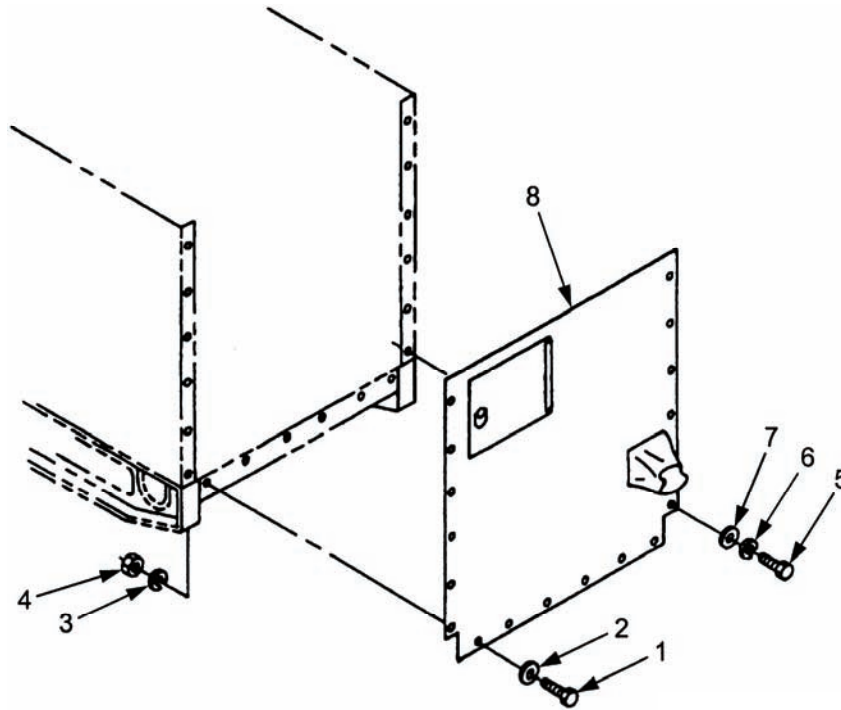

Figure 5-10. Rear Housing Panel.
- a. Remove six bolts (1, Figure 5-10), washers (2), lock washers (3), and nuts (4). Discard lock washers (3).